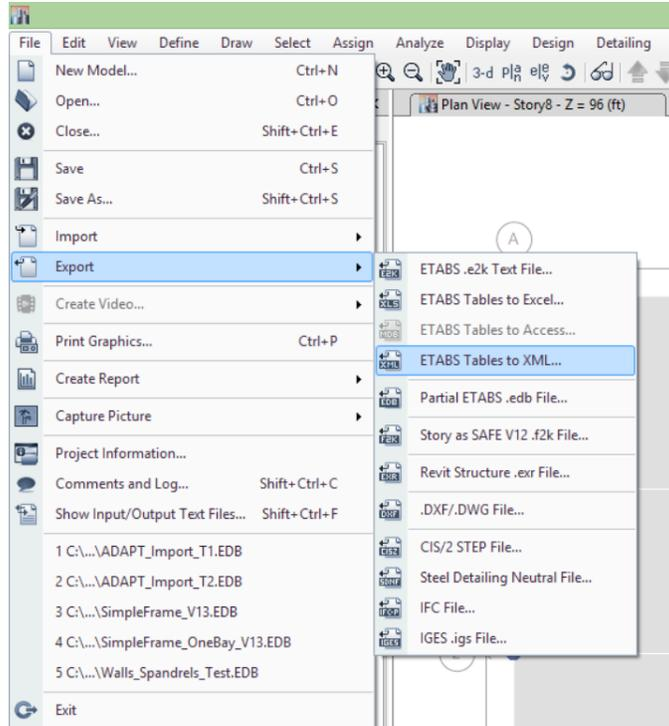

Figure 2 Preparing ETABS .XML File
- After the ETABS model has been analyzed and the solution saved, In ETABS, select *File* → *Export* → *ETABS Tables to XML* (**FIGURE 2**). This file contains the applicable story force data relative to lateral loading using the “auto-lateral” function in the ETABS model.